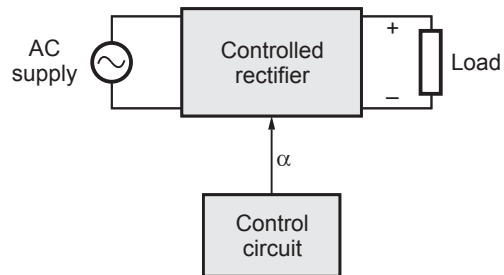

Fig. 2.1.1 Principle of operation of a controlled rectifier
- Controlled rectifiers are basically AC to DC converters. The power transferred to the load is controlled by controlling triggering angle of the devices. Fig. 2.1.1 shows this operation.